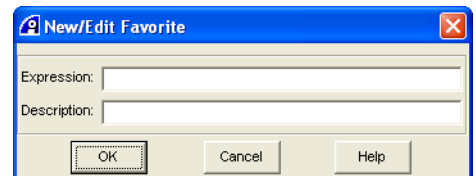

Figure 8-4 New/Edit Favorite dialog box
4. Click **New** to display the New/Edit Favorite dialog box. Figure 8-4 shows an example: